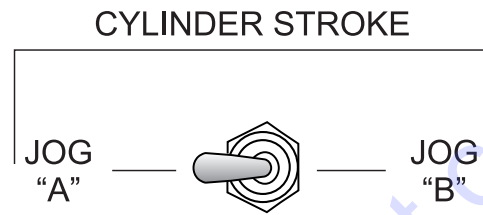

Figure 54. Manual Cylinder Jogging Switch
2. Place and hold the **manual cylinder jogging switch** (Figure 54) to either **JOG “A”** or **JOG “B”** position to test the pressure of that cylinder.